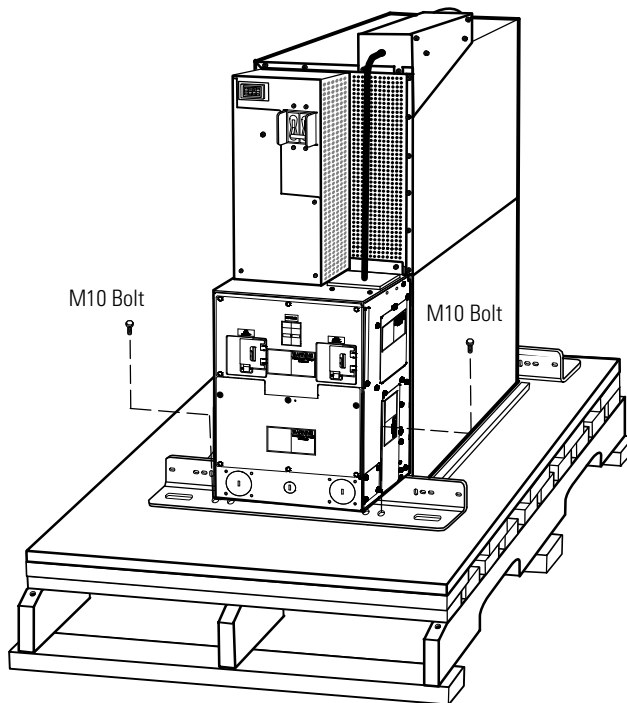

Figure 5. Removing the Rear Stabilizing Bracket Bolts
6. Remove the two M10 bolts securing the rear stabilizing bracket to the pallet (see Figure 5).